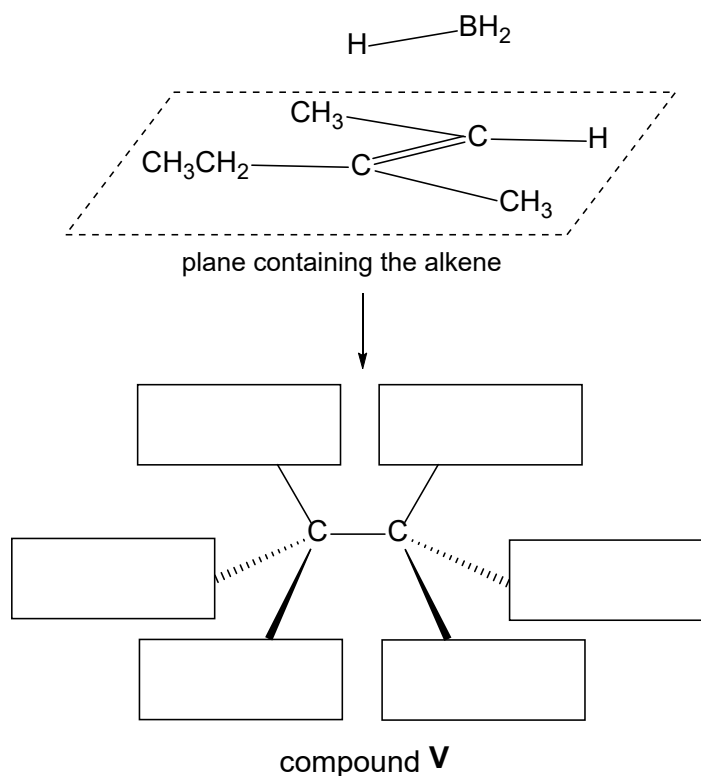

Fig. 2.2
- (i) Fig. 2.2 represents the approach of BH_3 from the top side of the plane of the alkene to form compound **V**.
Complete the structure of compound **V** in Fig. 2.2 to show the three-dimensional structure of the product formed. [1]